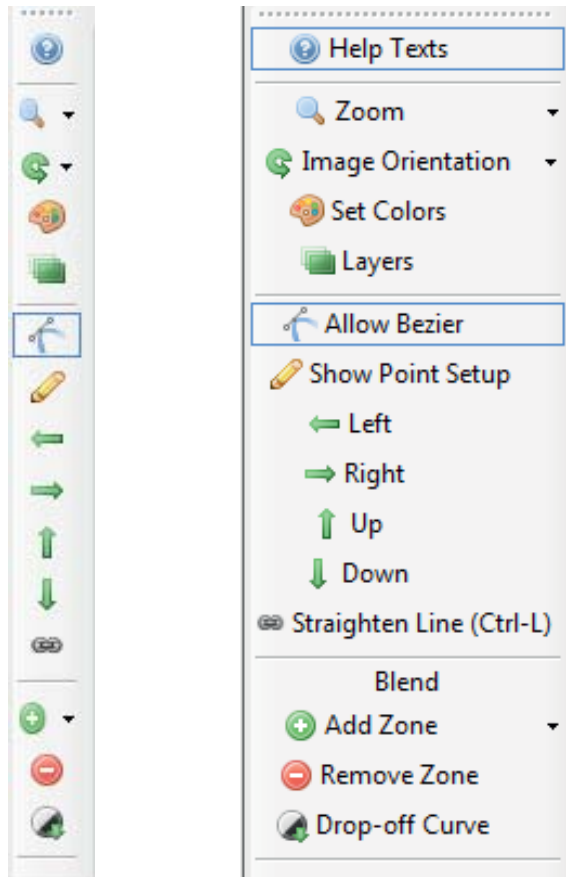

Figure 6-17. Calibration Panel Toolbar, without and with help texts.
The calibration panel has a set of tools on the left hand side of the window. This toolbar can be shown with or without help texts, Figure 6-17.
- Bottom section of the Calibration Panel Toolbar, has a different button depending on which calibration is being performed. Figure 6-17 shows the tools for advanced edge blending.